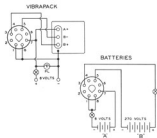

Figure 9. Octal plug wiring diagram
2. Wire an octal plug, as shown in Fig. 9, and plug it into socket SO-1. Use #19 (AWG) wire leads for the 270 volt "B" supply connections to pins #3 and #5, and #12 (AWG) wire leads for the 6 volt battery connections to pins #1, #7, and #8. **CAUTION!** Check the wiring carefully before connecting to the battery supply. The chart below lists the current voltage data.